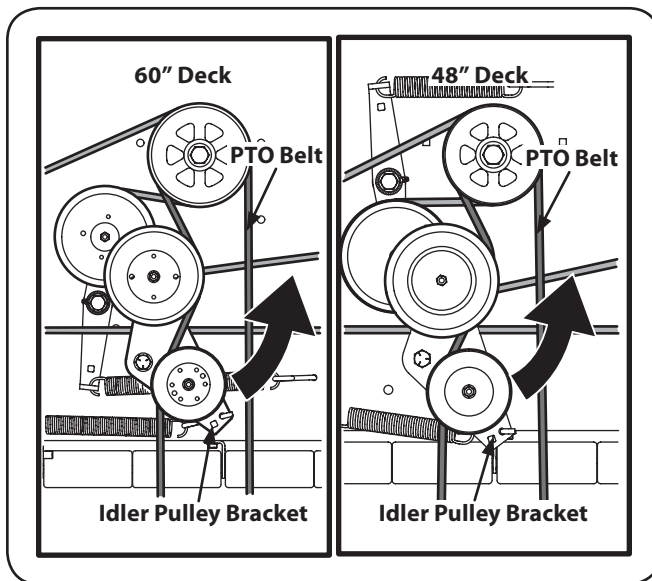

Figure 7-2
4. Using a 1/2" drive in the idler pulley bracket, turn the wrench towards the right of the tractor and slide the belt off the PTO pulley. See Figure 7-2.